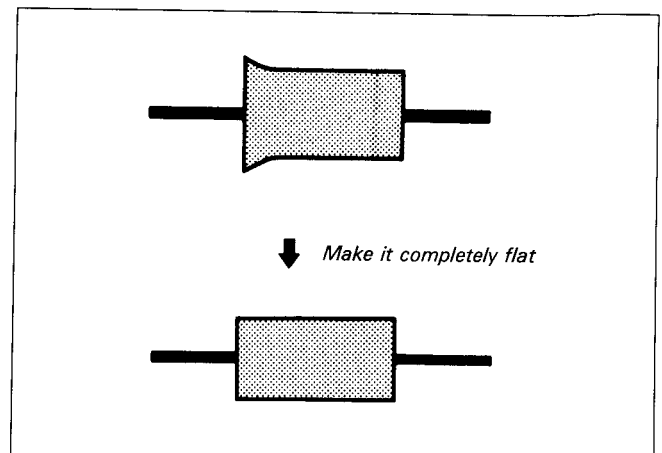

Fig. 7-72.
- 6) Flatten the waveform with No.3 guide. (See Fig. 7-72.)